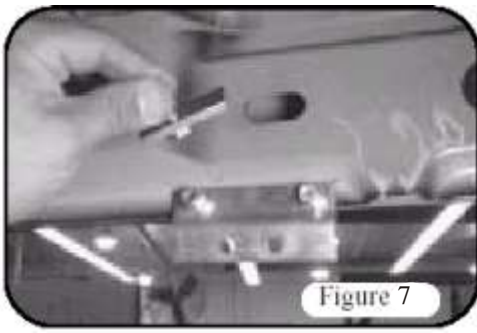

Figure 7
- STEP 7. Install the anchor bolt into the factory hole under the rocker panel and place the "L" bracket into position and secure to anchor bolt with a flange nut. Leave loose. SEE FIGURES 7 AND 8.